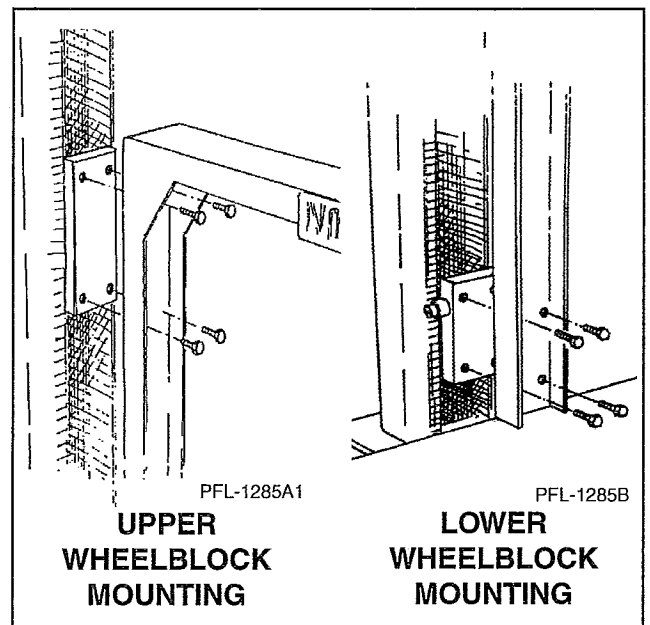

Figure 10
- Slide column alongside carriage so that the wheelblocks align with mounting holes. Bolt the carriage to the wheelblocks using the screws previously removed. Make sure column is secured. See Figure 10.